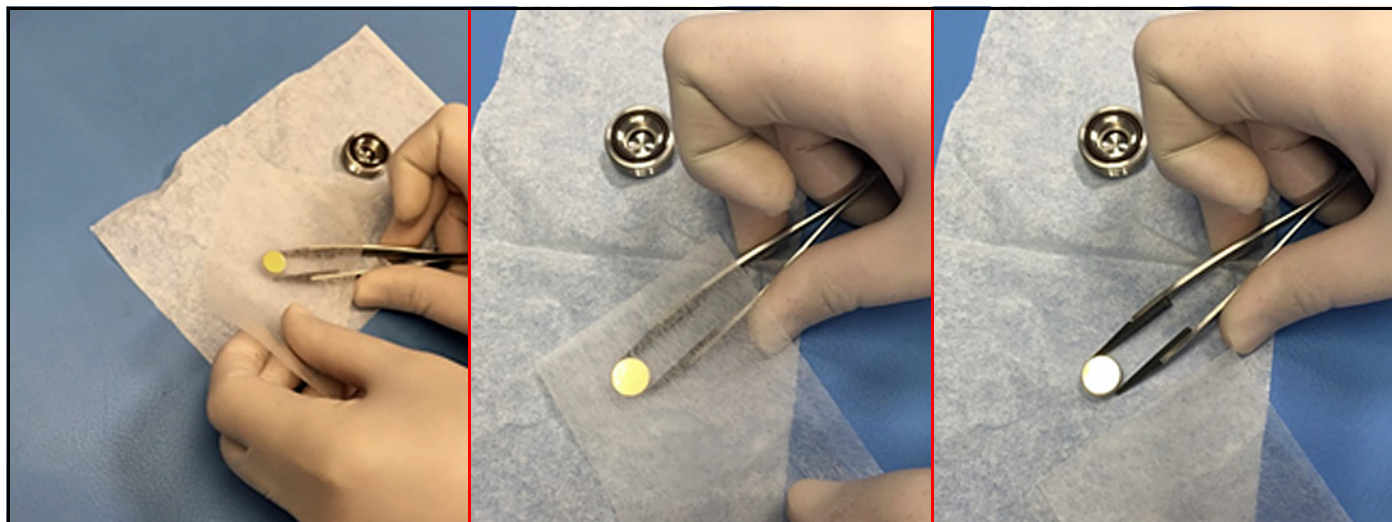

Figure 57: Cleaning a Contaminated Mirror
12. Place the wet lens tissue on top of the mirror and drag it horizontally across the surface of the mirror, while holding it on with a pair of plastic-tipped tweezers (see *Figure 57* below). Ensure that minimal liquid residue or streaks are left behind on the mirror surface.